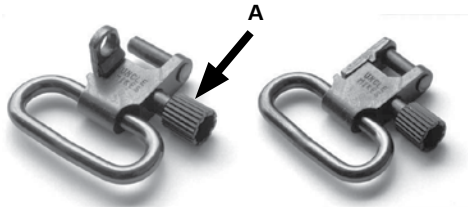

Figure 17
1. Unscrew the knurled knob Figure 17/A to the left.
See Figure 17 on page 48.